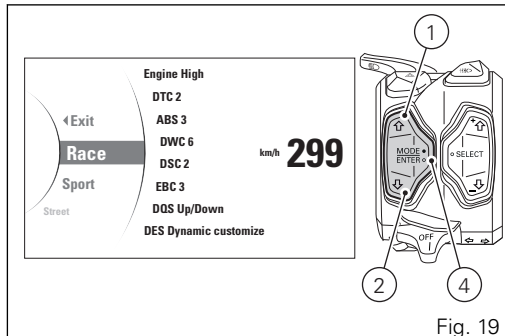

Fig. 19
If you select "EXIT" and press button (4) (Fig. 19), the instrument panel will display the main screen, without storing the new setting (the new Riding Mode).